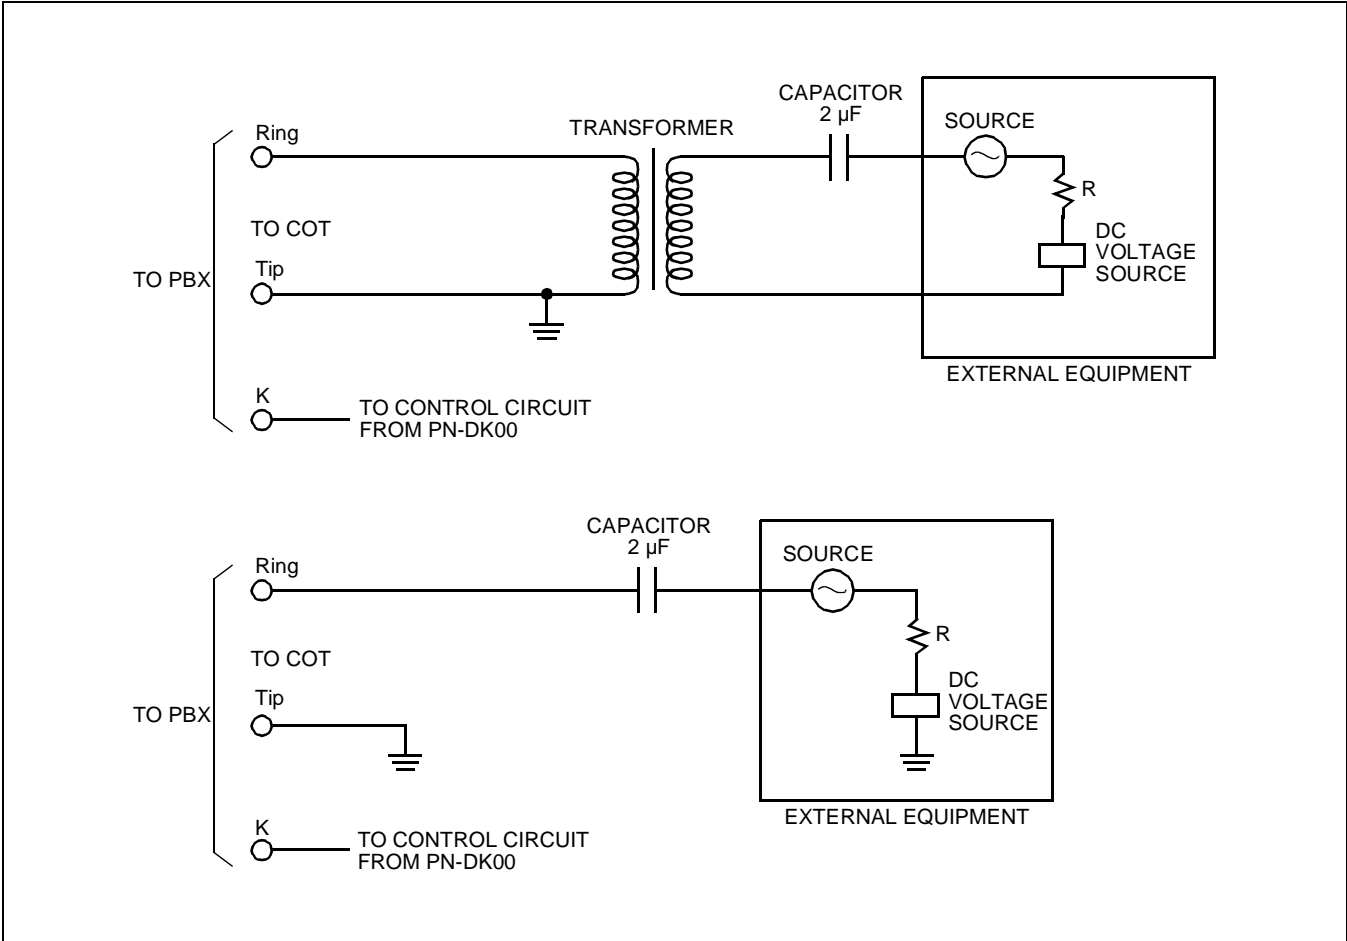

Figure 007-35 Connecting a Tone Source Supplied with D.C.
- If a D.C. voltage is supplied with the tone from the external tone source equipment, a transformer or coupling capacitor should be used as shown in Figure 007-35.